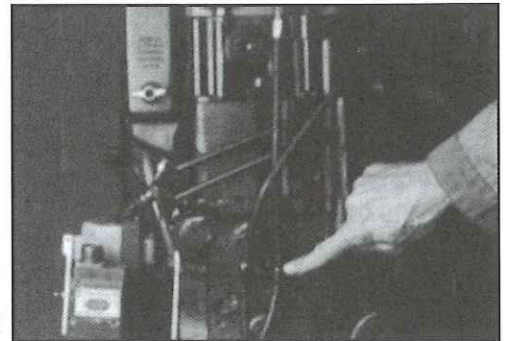

Fig. 32
7. Secure hose to engine using clamps and ties. See Fig. 32. This minimizes stress and mechanical damage to hoses.